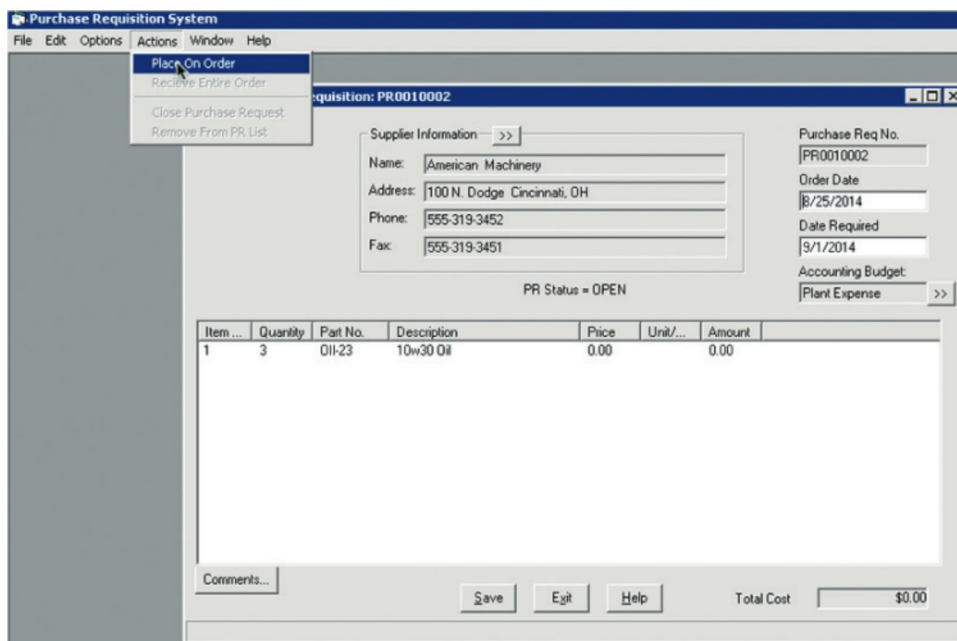

Figure 50. Purchase Requisition System: Actions—Place On Order.
4. Click the **Actions** menu in the main *Purchasing Requisition System* window (see Figure 50).